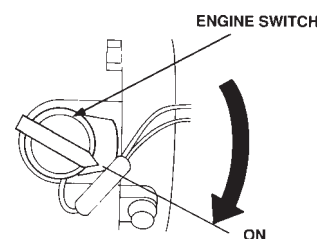

Figure 5. Engine ON/OFF Switch (ON Position)
- Place the **engine ON/OFF switch** (Figure 5) in the "ON" position.